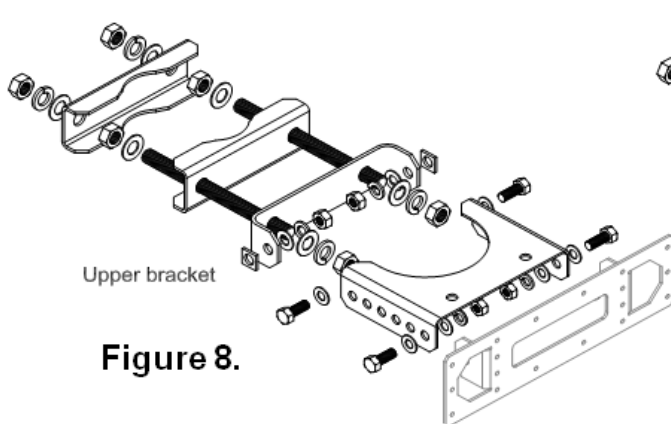

Figure 8.
- Figure 8. Mechanically Adjustable Downtilt Bottom Bracket Exploded View**